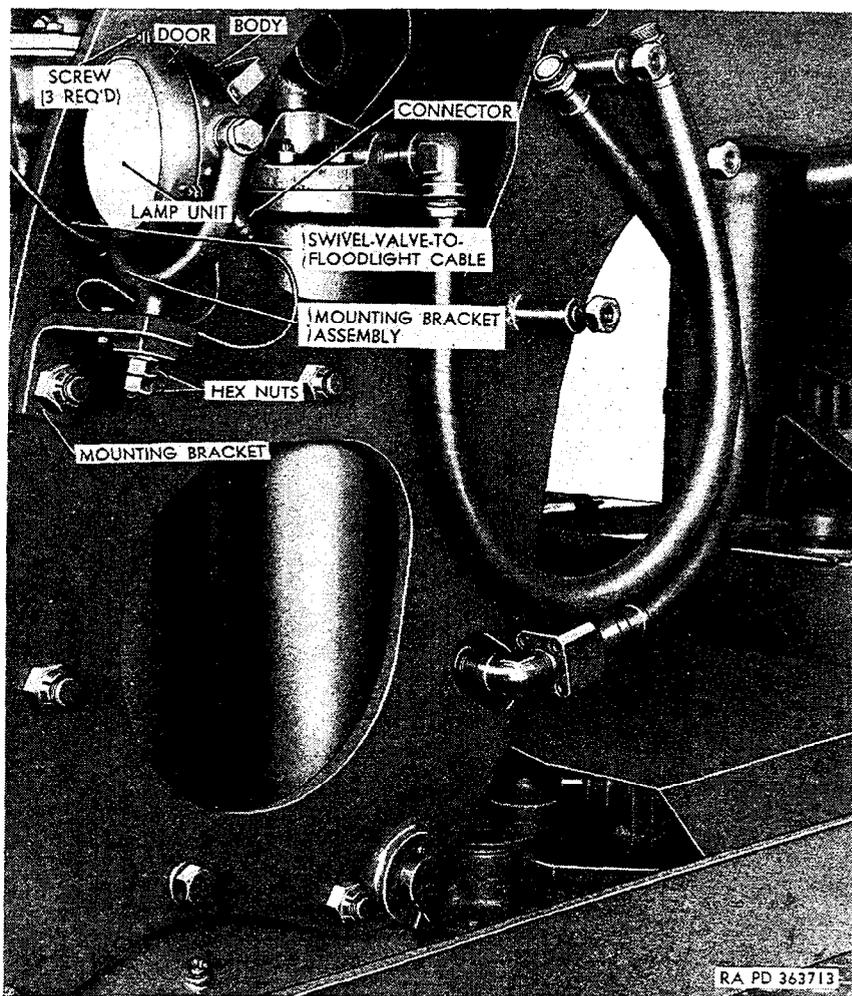

Figure 312. Floodlight mounted on left side of shipper support M62.
- (1) *Lamp-unit replacement* (fig. 312).
(2) Floodlight switch removal.
- (b) Disconnect two bayonet-type connectors (fig. 312) securing floodlight cables to rear of floodlight.
- (c) Remove two screws securing contact bracket and switch assembly to inside of floodlight body (fig. 312). Remove bracket and switch assembly (with cables) from body.
- (d) Position contact bracket and switch assembly in floodlight body (fig. 312), and secure bracket to body with two screws.
- (e) Connect two floodlight cable bayonet-type connectors (fig. 312) to connectors at rear of floodlight.
(4) *Floodlight removal (floodlight mounted at shipper support illustrated) (fig. 312).*
(5) *Floodlight installation (floodlight mounted at shipper support illustrated) (fig. 312).*